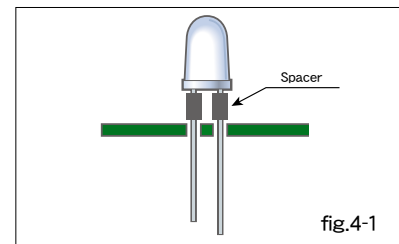

fig.4-1
- ① Stanley does not guarantee direct mounting of the through-hole LEDs to the boards. Directly mounting the through-hole LEDs (excluding direct mount type) could lead to damaging the LED resin from board warp, lead cutting and clinching during the soldering process. (If direct mounting must be performed, please take all necessary precautions to make sure there are no problems)
- ② To determine the mount positions of all through-hole LEDs other than the direct mount type, please use a spacer or LEDs equipped with stopper. (fig.4-1)